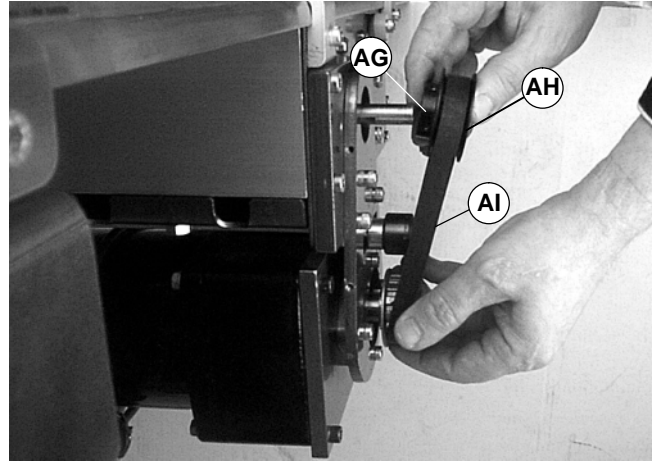

Figure 23
**NOTE:** If timing belt does not slide over pulley flange, loosen driven pulley set screws (AG of Figure 23) and remove pulley (AH) with belt (AI).